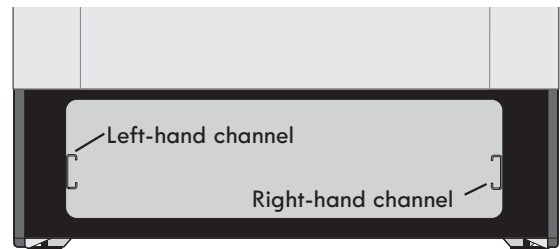

Figure 48: Warmer drawer channels
2. Carefully line up both sides of the warmer drawer glide rails to the outer compartment glide channels located inside the empty warmer drawer compartment (Figure 48).